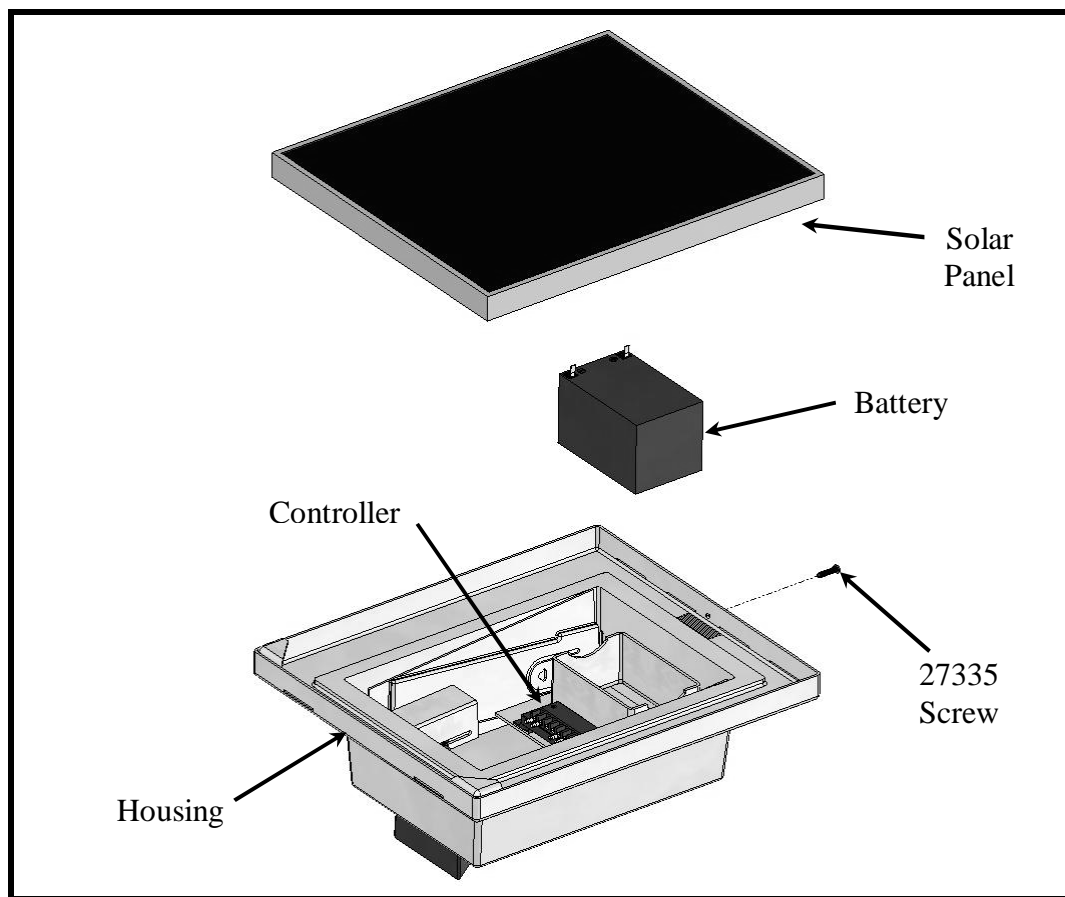

Figure 38 – Optional sentinel™ solar lite Housing
- e) Reinstall the solar panel and secure with the 27335 1/4" x 1" screw using the 5/32 hex-bit. Do not over tighten or damage to housing and solar panel may occur. See Figure 38.